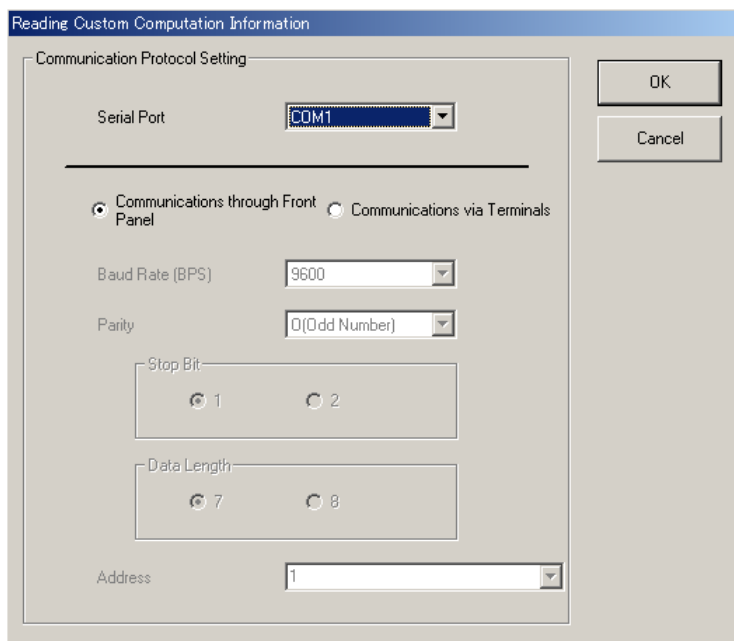

Figure 8.1.1 [Writing Custom Computation Information] (Communication Protocol Setting) Dialog Box
- (1) From the tool menus, click <Communication>, then <Upload from Controller...>. The [Reading Custom Computation Information] (Communication Protocol Setting) dialog box (Figure 8.1.1) appears.
- (2) In the dialog box, click the <Communications through Front Panel> option button.
- (3) From the <Serial Port> drop-down list box, choose either COM1 to COM16.
- (4) Click the <OK> button.
- (5) A message appears, informing that the reading of information on custom computations is complete.
- (6) When reading is complete, the [Custom Computation Configuration Menu] dialog box appears.